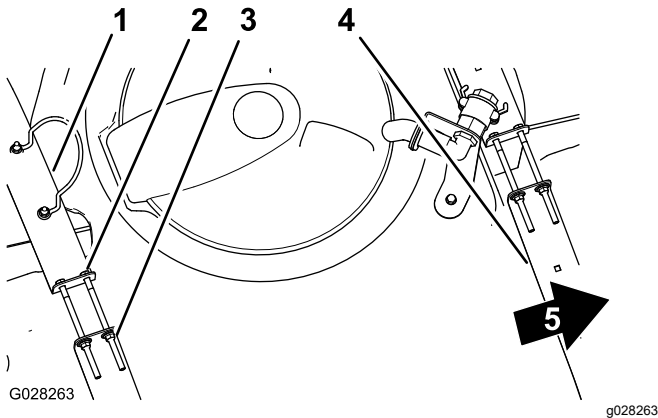

Figure 33
2. Check to see if there is any movement between the tank straps and the tank (Figure 33).
3. If the tank straps fit loose to the tank, tighten the flanged locknuts and bolts at the top of straps until the straps are flush with the surface of the tank (Figure 33).